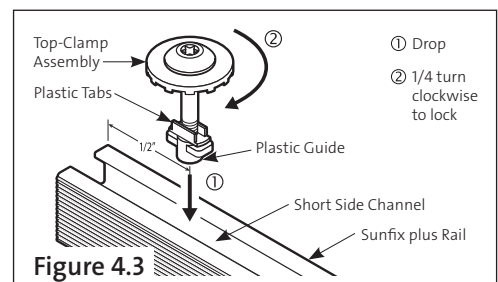

Figure 4.3
- 4.3. Insert Top-Clamp Assembly into the rail's short side channel about $\frac{1}{2}$ " from the rail end. To lock, sit bottom of plastic guide against the bottom of the channel, and twist $\frac{1}{4}$ turn clockwise to lock Top-Clamp Assembly into the channel (plastic taps will be perpendicular to rail). Refer to **Figures 4.3** and **4.6**. Repeat Steps 4.2 and 4.3 for the second rail. (Each solar panel will be attached to two rails.)